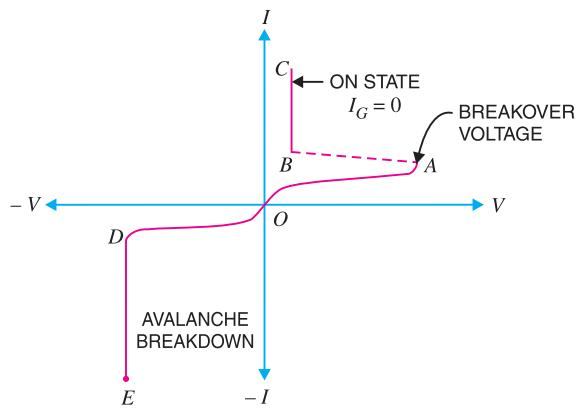

Fig. 20.7
It is the curve between anode-cathode voltage (V) and anode current (I) of an *SCR* at constant gate current. Fig. 20.7 shows the V - I characteristics of a typical *SCR*.
(i) **Forward characteristics.** When anode is positive *w.r.t.* cathode, the curve between V and I is called the forward characteristic. In Fig. 20.7, *OABC* is the forward characteristic of *SCR* at $I_G = 0$. If the supply voltage is increased from zero, a point is reached (point *A*) when the *SCR* starts conducting. Under this condition, the voltage across *SCR* suddenly drops as shown by dotted curve *AB* and most of supply voltage appears across the load resistance R_L . If proper gate current is made to flow, *SCR* can close at much smaller supply voltage.